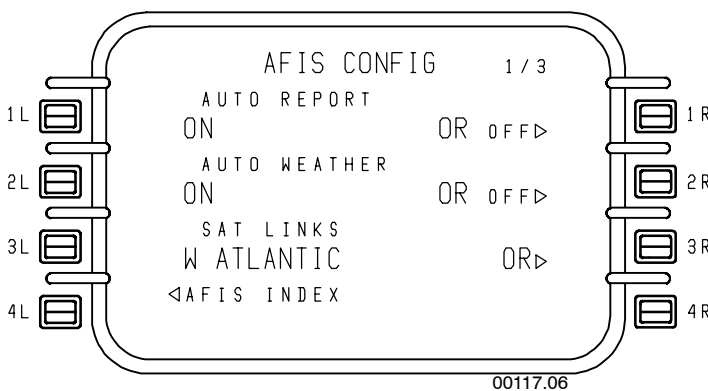

Figure 6-69
- **AFIS CONFIG 1/3** - This page is selected from page 2 of the AFIS Index. As shown in Figure 6-69, this page is used to select the configuration for AUTO REPORT, AUTO WEATHER, and satellite links.